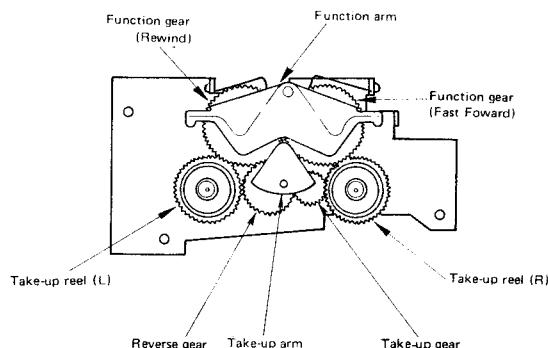

Fig. 25
- 1) Install the gear assembly on the deck chassis unit with the stop mode engaged (refer to Fig. 25).